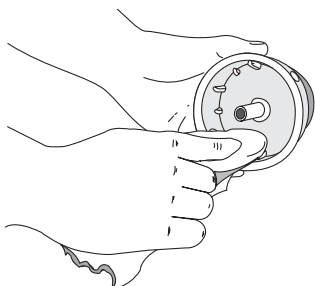

Fig. 52
4. Use a clean cloth to clean the the inner reel, spring, shaft and inner surface of the outer spool (Fig. 52).